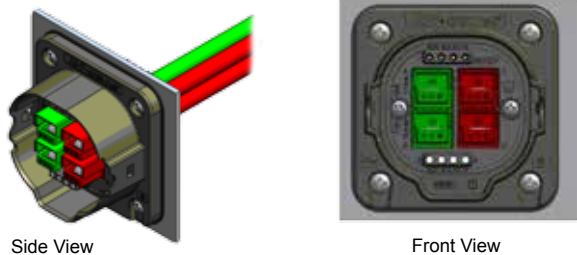

Figure 10
8. Assembly is complete, (See figure 10)